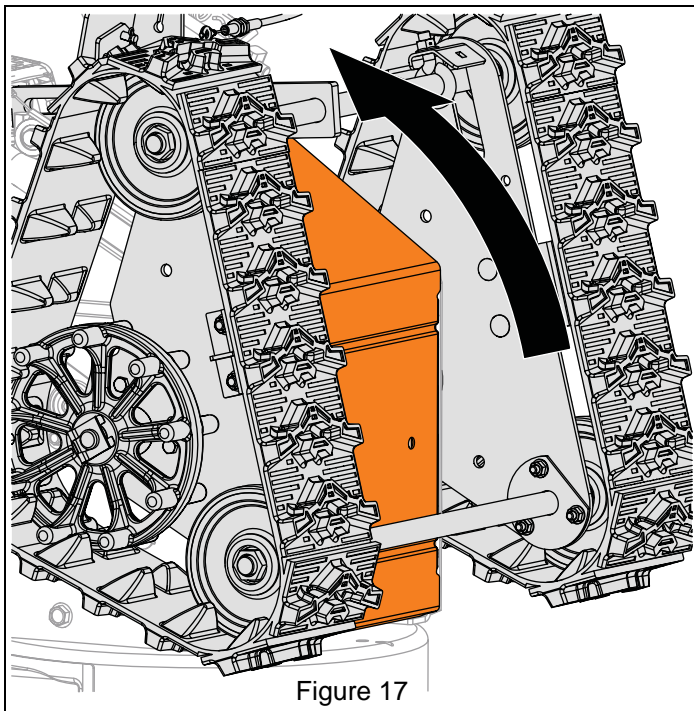

Figure 17
**IMPORTANT:** For track models, track angle must be in the “Raised Position” to remove bottom cover. Refer to Operator’s Manual. See Figure 17.